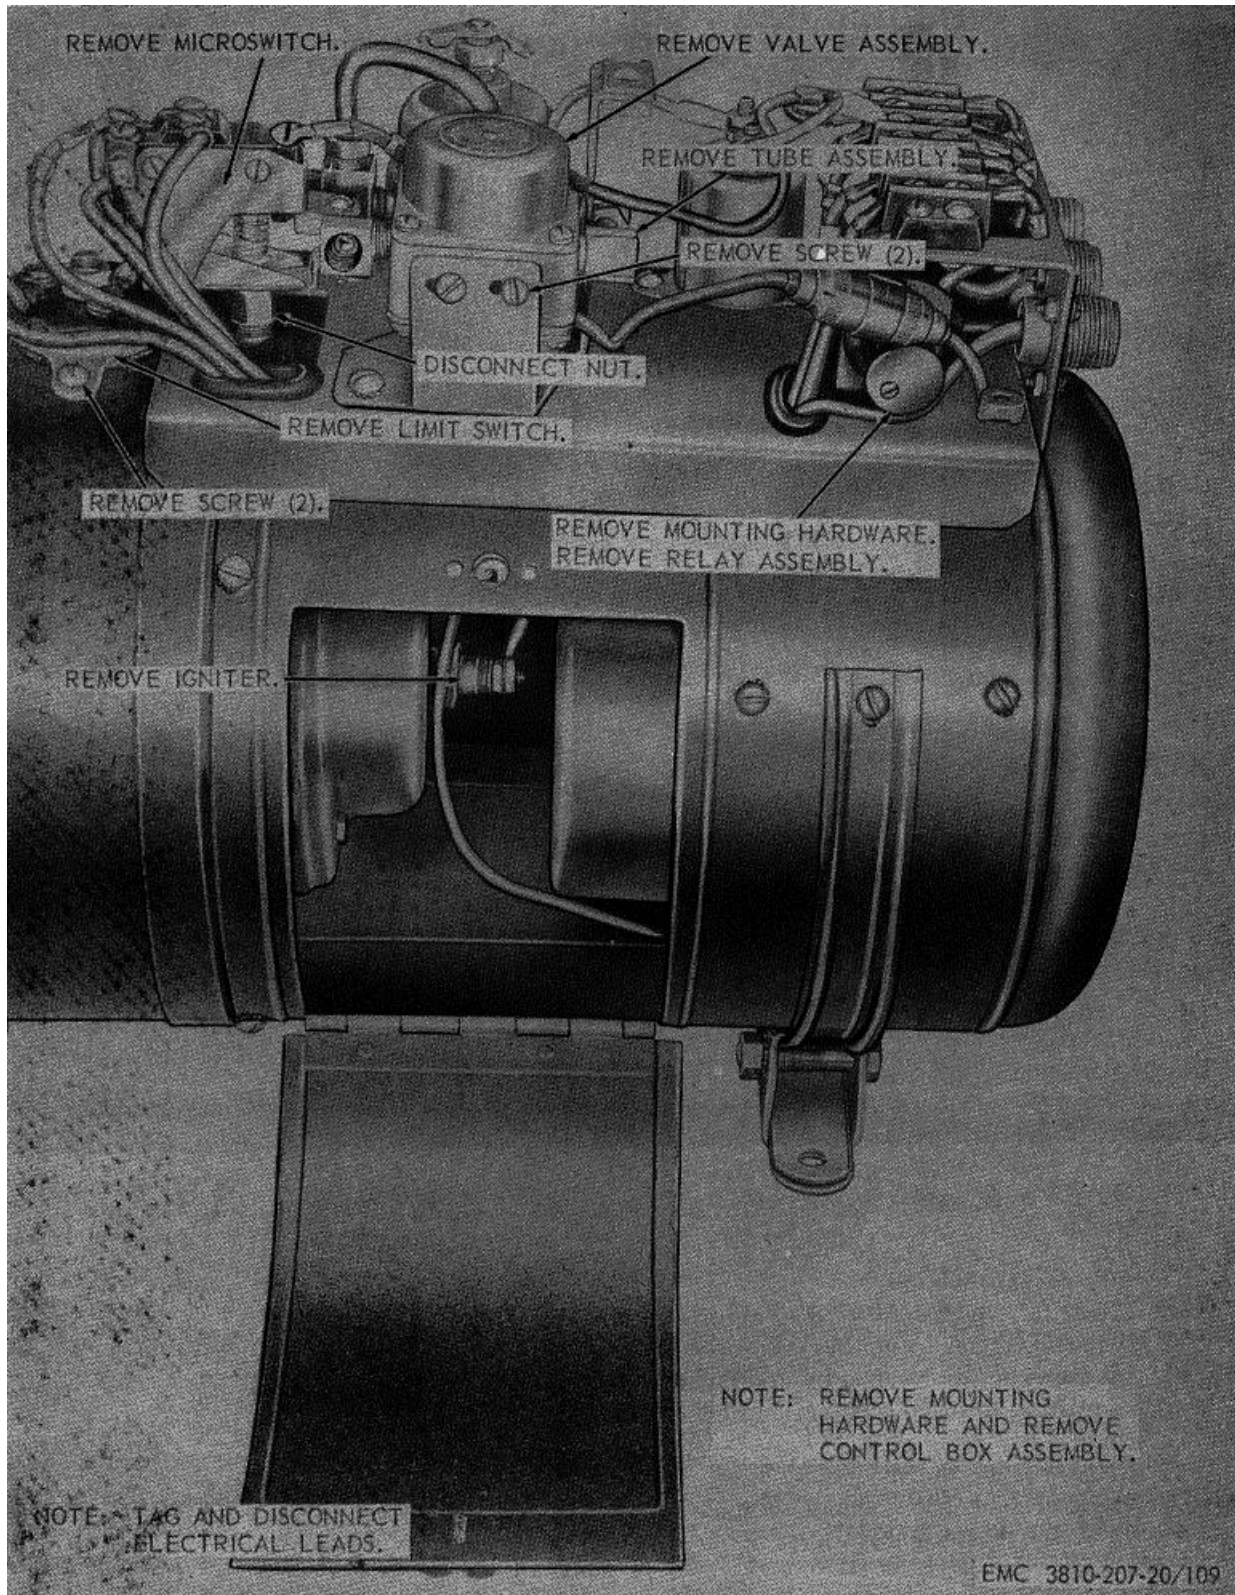

Figure 109. Igniter, relay, limit switch, valve, and microswitch, removal and installation.
- (1) Remove the crane heater (par. 184).
- (2) Remove the igniter, relay, limit switch, valve, and microswitch as instructed on figure 109.
- (1) Install the igniter, relay, limit switch, valve, and microswitch as illustrated on figure 109.
- (2) Install the crane heater (par. 184).